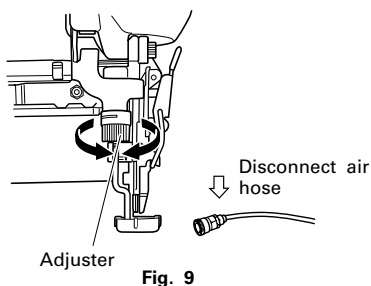

Fig. 9
2. Adjusting the nailing depth (See Fig. 9)